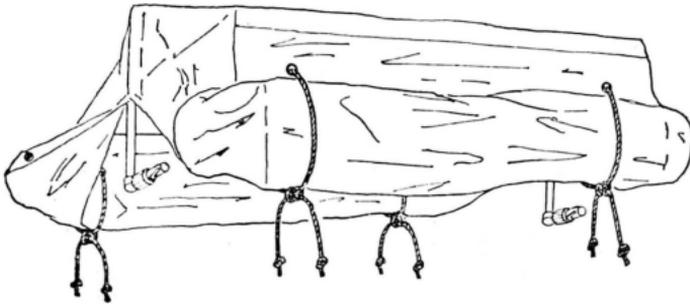

Fig. 3
2.07 Two ropes in each sidewall provide a means of securing the sidewalls when they have been rolled up. These facilitate the installation and removal of the tent. Fig. 3 illustrates the tent with the sides rolled up and tied with the sidewall ropes.